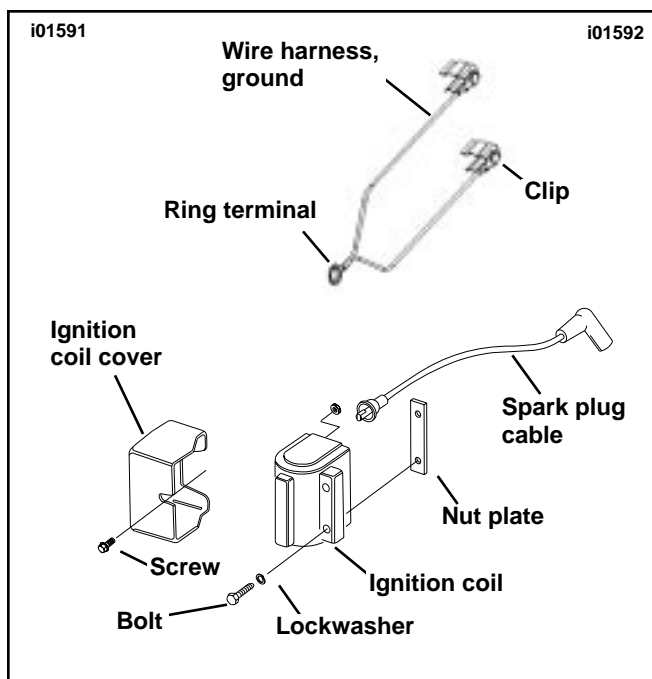

Figure 3. Softail Spark Plug Cables
2. See Figure 3. Disconnect spark plug cables from coil and spark plugs. Note the positions of the cables for reassembly.